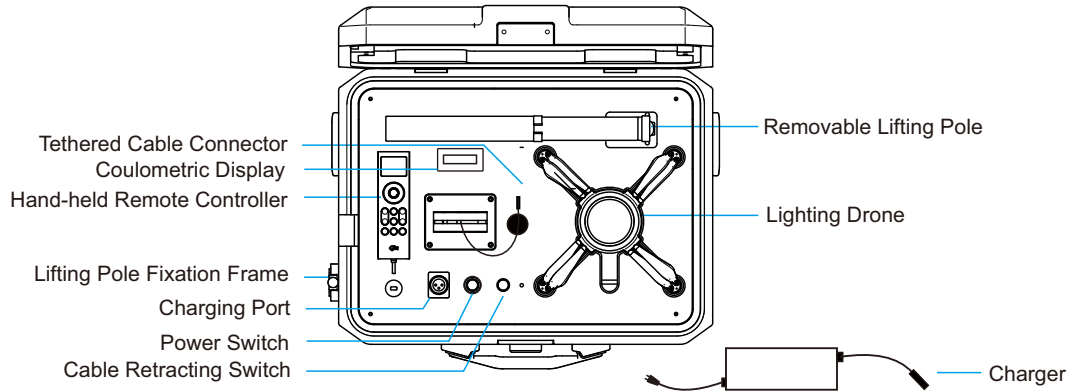

Figure 3: Schematic Diagram Of The Components Of The Tethered Box
a. Components Of The Tethered Box System (Refer To Figure 3)
- ① The Tethered Box: It mainly contains lighting drone, automatic cable retractor, tethering cable, handheld remote control, Charger, removable lifting pole, lifting pole fixation frame, lithium battery pack, Coulometric Display and other components.
- ② Tether Cable Connector: Used for connecting the integrated box to the lighting drone.
- ③ Tether Cable: Used for providing power to the drone and transmitting signals between the integrated box and the lighting drone.
- ④ Hand-held Remote Controller:Used for controlling the drone and lighting system.
- ⑤ Removable Lifting Pole: Used for restraining the tethering cable.
- ⑥ Lifting Pole Fixation Frame: Used to fix the removable lifting pole.
- ⑦ Lithium Battery Pack: Used to supply power to the tethered lighting drone system.
- ⑧ Power indicator: Used to check the power level of the Li-ion battery pack of the tethered box.
- ① Open the flap of the integrated box (the integrated box lock is rotated 90 degrees counterclockwise), Press the "Power Switch" button.and power on the system.